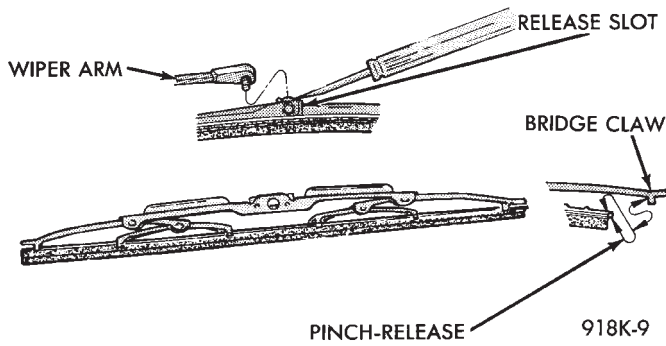
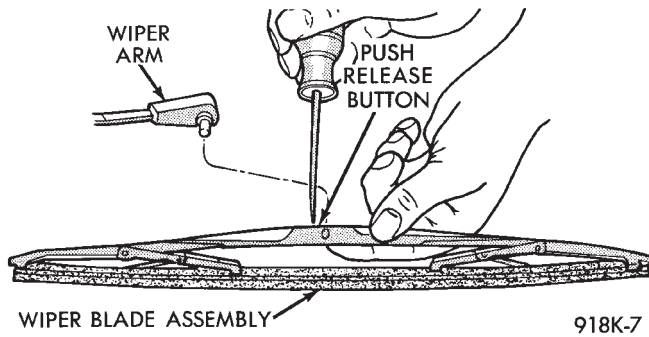

Fig. 2 Wiper Blade and Element
Fig. 3 Wiper Blade and Element
(1) Turn wiper switch ON, position blades to a convenient place by turning the ignition switch ON and OFF.
(2) Lift wiper arm to raise blade off glass.
(3) Remove blade assembly from arm by inserting a small screwdriver blade into release slot of wiper blade and depressing slightly (Fig. 2), or push release button (Fig. 3).
(4) To remove wiping element from blade assembly:
- First type: pinch lock on end of blade assembly and pull wiping element (blade) out of end bridge claws (Fig. 2).
- Second type: lift tab on one end of links and squeeze the link to remove from center bridge. Slide end link off the element from claws of other link (Fig. 3).